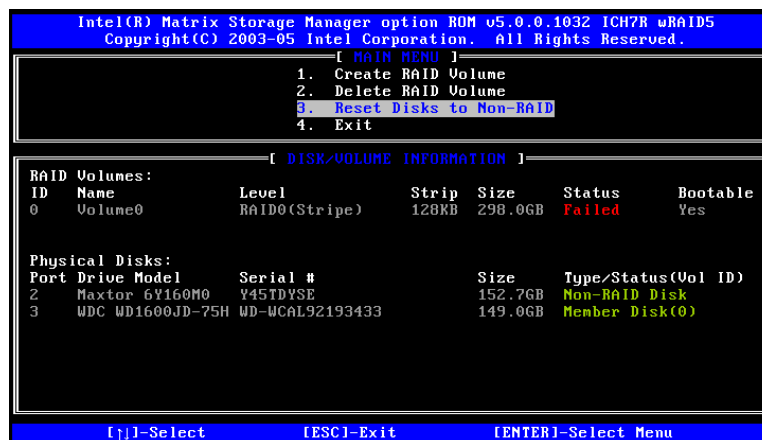

Figure E-15: Disk Drive and RAID Volume Status
Step 4: Disk Drive and RAID Volume Status. After the disk drives have been reset, the **Matrix Storage Manager Main** menu is shown indicating the status of the RAID volumes and disk drives. See Figure E-15.